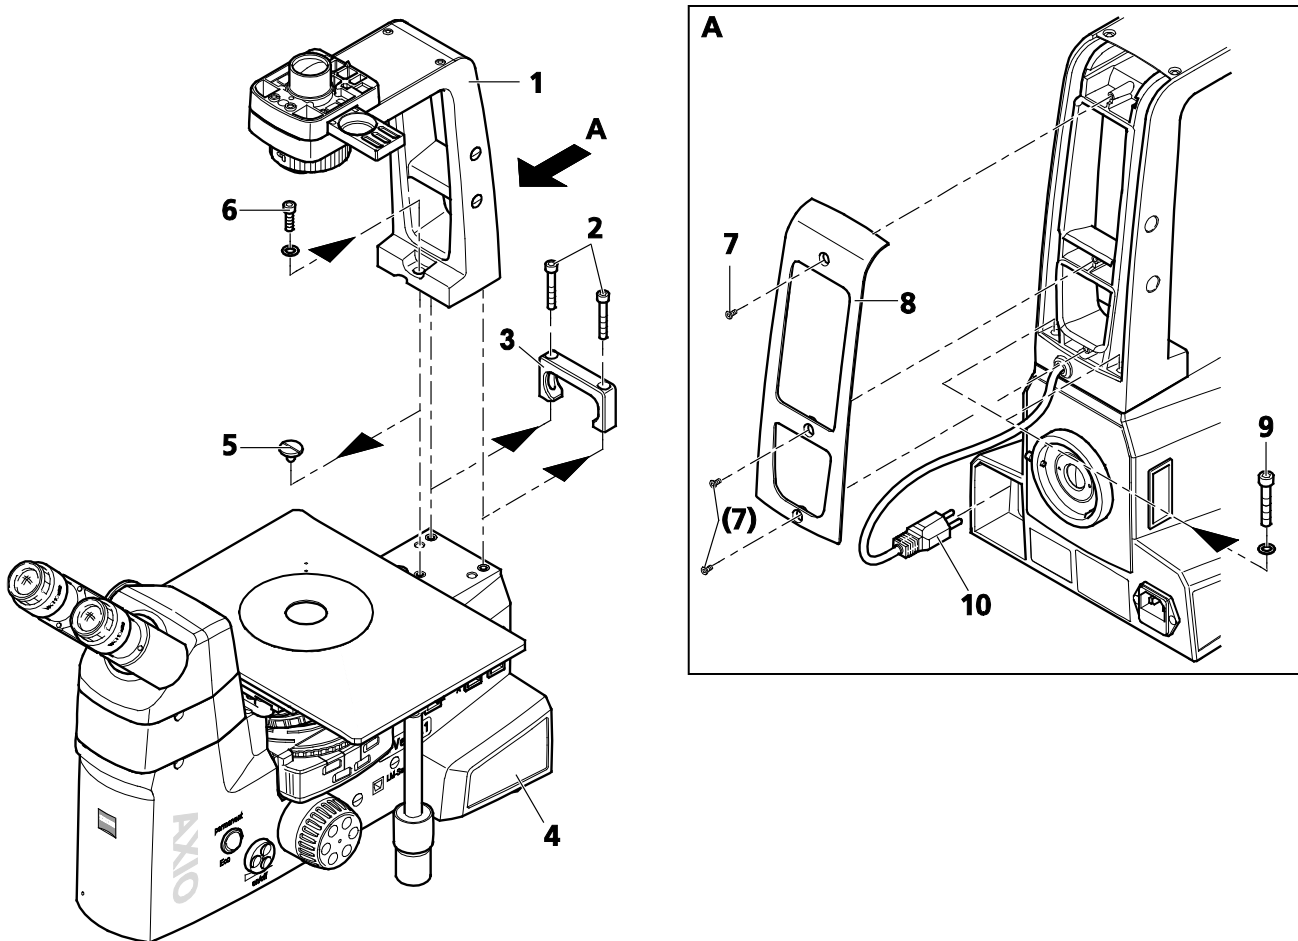

Fig. 3-36 Mounting the Carrier for Transmitted Light Illumination
- Use ball-headed screwdriver SW 5 to remove the two screws (Fig. 3-36/2) on the carrying handle (Fig. 3-36/3) and then take off the carrying handle.
- Remove the cover screw (Fig. 3-36/5) from the tapped hole.
- Take the carrier (Fig. 3-36/1) out of the packaging.
- Turn out the three Phillips screws (Fig. 3-36/7) of the cover at the back of the carrier (Fig. 3-36/8) and remove the cover from the carrier.
- Set the carrier onto the stand (Fig. 3-36/4) and loosely attach it with the three screws (Fig. 3-36/6 and 9) and washers, using the special screwdriver supplied.
- Insert the three-pin plug (Fig. 3-36/10) of the transmitted light illuminator into the upper socket (TL) at the back of the stand.